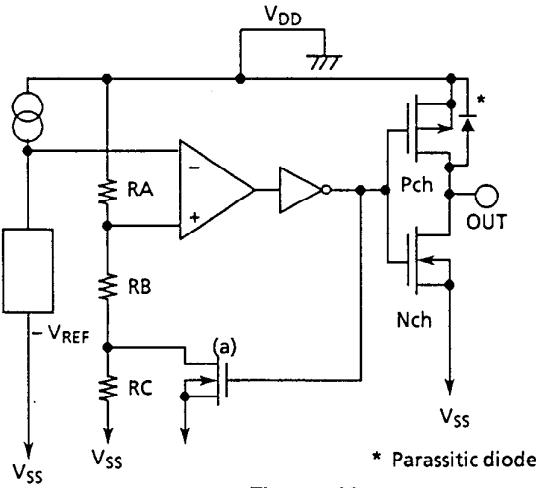
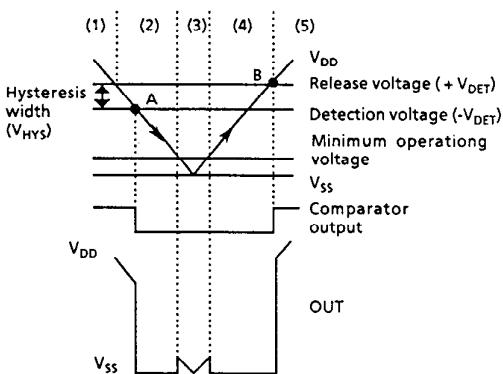

Figure 16
Figure 17
Hysteresis width is the voltage difference between a device's detection voltage and its release voltage (see Figure 17. $V_{HYS} = B-A$). By giving a device hysteresis, erroneous toggling of the output due to noise at the input is avoided.
- (1) When power supply voltage V_{DD} is greater than the release voltage $+V_{DET}$, the Nch transistor is OFF and the Pch transistor ON, causing V_{DD} (high) to appear at the output. With the Nch transistor of Figure 16 (a) off, the comparator input voltage is $(RB + RC)/(RA + RB + RC) \times V_{DD}$.
- (2) When power supply voltage V_{DD} goes below $+V_{DET}$, the output continues to maintain the power supply voltage level, as long as V_{DD} remains above the detection voltage $-V_{DET}$. When V_{DD} does fall below $-V_{DET}$ (A in Figure 17), the Nch transistor goes ON, the Pch transistor goes OFF, and V_{SS} appears at the output. With the Nch transistor of Figure 16 (a) ON, the comparator input voltage is $RB/(RA + RB) \times V_{DD}$.
- (3) When V_{DD} falls below the minimum operating voltage, the output becomes undefined. However, output will revert to V_{DD} if a pull-up has been employed.
- (4) V_{SS} will again be output when V_{DD} rises above the minimum operating voltage. V_{SS} will continue to be output even when V_{DD} surpasses $-V_{DET}$, as long as it does not exceed the release voltage $+V_{DET}$.
- (5) When V_{DD} rises above $+V_{DET}$ (B in Figure 17), the Nch transistor goes OFF, the Pch transistor goes ON, and V_{DD} appears at the output.